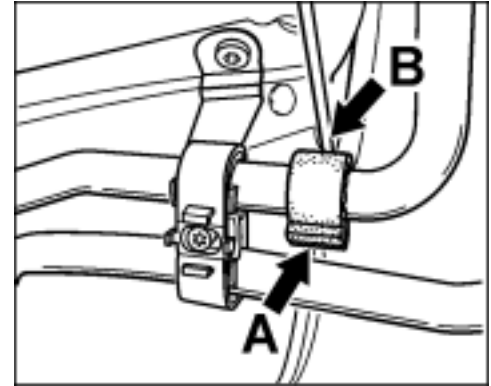

Figure 9
- 11 Check the position of the rubber ring (⇒ *Figure 9*-, **Arrow A**-) in the area of the lower holder and adjust it if necessary. The rubber ring must be located at the height of the sheetmetal seam (⇒ *Figure 9*-, **Arrow B**-) on the unpainted bodyshell.